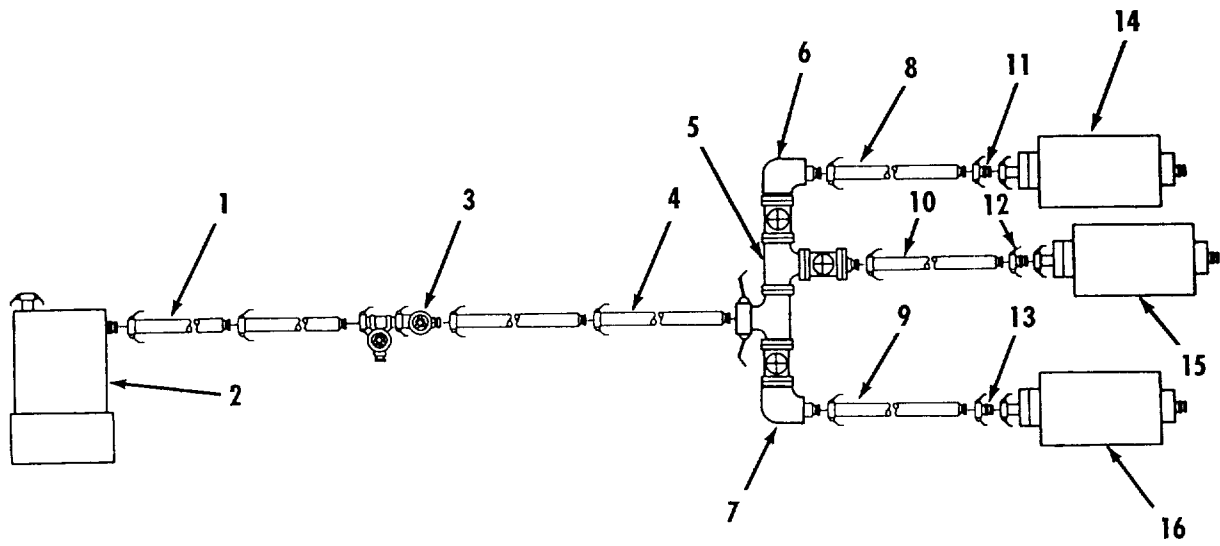

Figure 2-17. Fuel System - Secondary 600 GPM Pump Output to 200 GPM Filter-Separators.
- i. Fuel System Secondary 600 GPM Pump Output to Filter-Separators. Refer to figure 2-17.